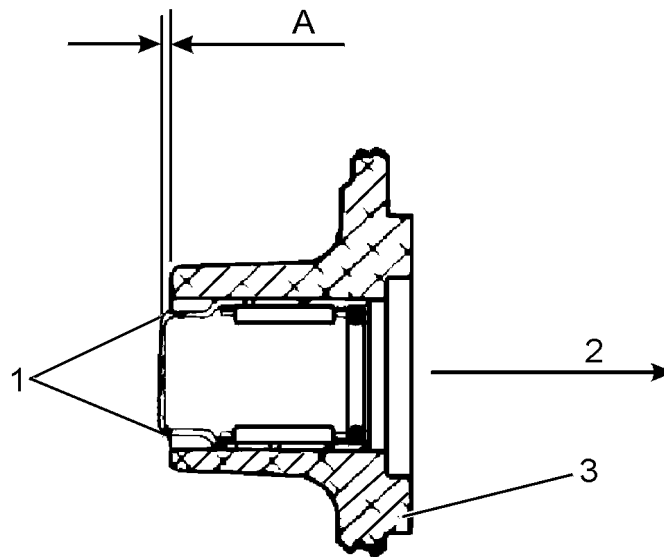

Fig. 8.11. Installing Bearing
- c. Push on race to remove bearing (19).
- d. Replace or re-use retainer plate (18), felt washer cup (43) and felt washer (34 and 35).
- e. Press in new bearing (19) against outer race.
- g. Assemble retainer (18) with bolts.
- h. Assemble inside collar (20) over shaft.
- i. Assemble outside collar (21) under felt washer (35) next to bearing (19) while supporting outside collar (21).
- j. Press rotor (2) into drive end frame (4).
- 8. To replace rectifier housing bearing (38):
- a. Push out bearing (38) from either end.
- b. Use a thin wall tube in space between grease cup and housing to push bearing (38) in to dimension as shown in Fig. 8.11.